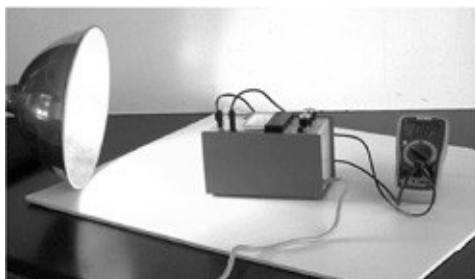

Figure 121-2 *Photoelectric effect apparatus.*
3. Place the blue filter over the opening going into the photodiode. The apparatus should be set up as shown in Figure 121-2.
10. The data should produce a linear relationship similar to the one shown in Figure 121-2 between stopping potential and voltage.